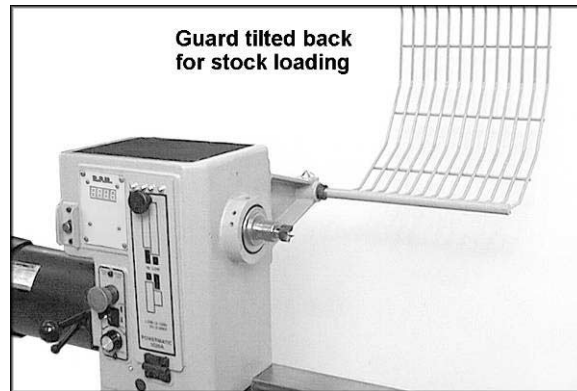

Figure 6
4. The guard can be pivoted to one of two positions: Operating mode (shown on front cover) or tilted back for stock loading (shown in Figure 6).